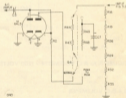

FIGURE 3.3 A.C. VOLTMETER CIRCUIT
a. Normal Position - With reference to Figure 3.3 and the switch in the normal position, voltage to be measured is rectified by one-half of the 6A5 twin diode, and the resultant d.c. voltage impressed to the divider network. Part of this voltage, as determined by the position of the Range Control, is fed to the control grid of one of the triodes of the bridge tube, causing the bridge circuit to function. In this normal position the instrument is calibrated to read in terms of RMS voltages of a sine wave.